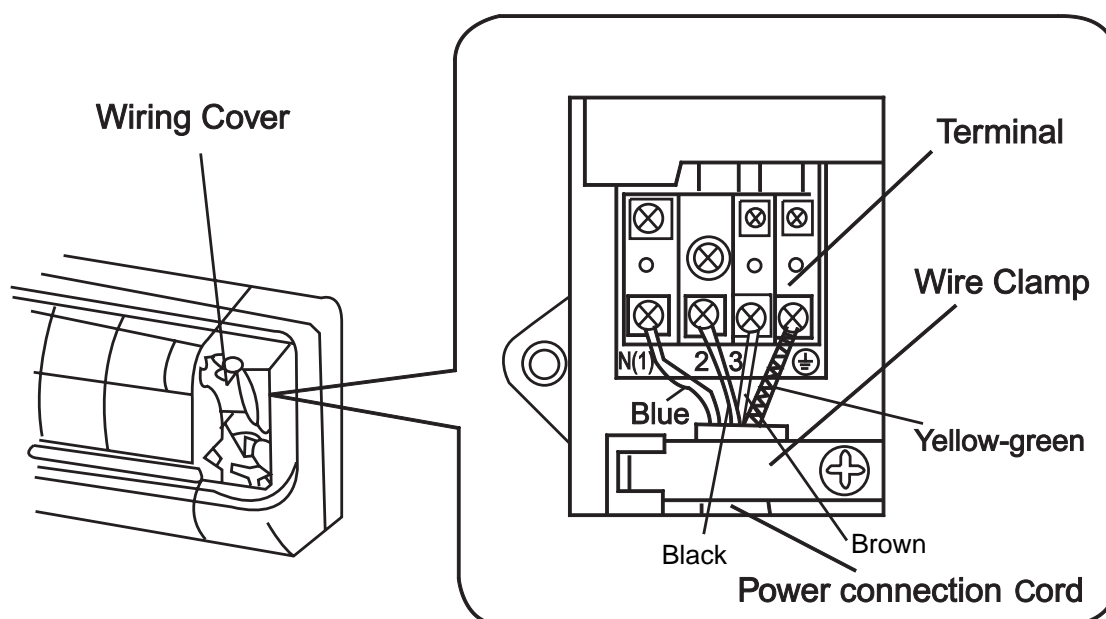

Fig.3
4. For model ASH-09AIN and ASH-12AIN, connect the blue wire of the power connection cord to the terminal “N(1)”, the black one to “2”, the brown one to “3” and the yellow-green one (earth wire) to “⊕” as shown in Fig.3. Then tighten the power connection cord by the wiring clamp.